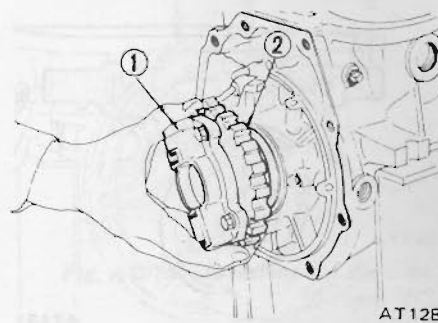

Fig. AT-62 Removing governor and oil distributor
16. Pull out output shaft; remove oil distributor (2) together with governor valve (1). See Figure AT-62.